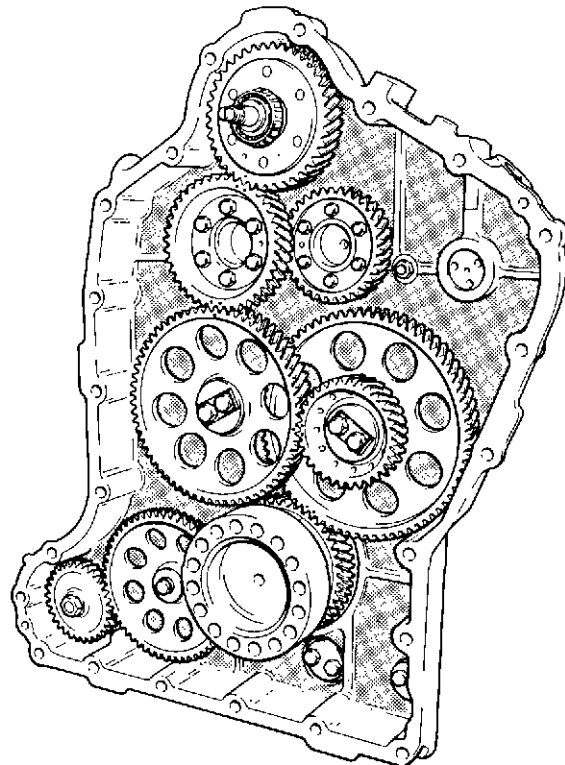

Fig. 20 Gear train timing marks
- 52 Fit the axle/distance piece assembly into the wheelcase recess. Slide the inner thrust washer, gear assembly and outer thrust washer over the protruding axle. Holding the components in position, fit the thrust plate and locking plate against the end of the axle and secure the assembly with two setbolts. Ensure that the two timing marks on the large gear teeth mesh correctly with the single timing mark on the crankshaft, (fig. 20). Nip up the two securing setbolts.
- 56 Place the lockplate over the two securing setbolts followed by the thrust plate, axle, outer thrust washer, gear wheel and inner thrust washer. Enter the axle into its location in the crankcase end wall, ensuring that the gear timing mark meshes correctly with the two timing marks on the small compounded gear, (see figure 20 for the timing positions). Nip up the two setbolts.
- 59 Ensure that the two locating dowels in the camshaft gears are facing in towards the centre line of the engine. Fit the fuel pump drive gear over the protruding dowel of the 'B' bank camshaft gear. One pair of timing marks on the fuel pump gear should be meshing correctly with the timing mark on the main idler gear. A second pair of timing marks should be correctly positioned to accept the auxiliary drive gear timing mark, (fig. 20). Secure the gear with three slave setbolts.
Note: When the two camshaft gear dowels are in the position shown in figure 20, and the crankshaft gear timing mark is correctly meshed with the timing marks on the compounded idler gear, the 'A1' piston is at T.D.C. on its compression stroke.
- 98 Fit the outer sleeve of the inner roller bearing in the wheelcase bore then position the auxiliary drive shaft assembly in the bearing sleeve, with the gear timing mark meshing correctly with the two timing marks on the fuel pump drive gear, (fig. 20).